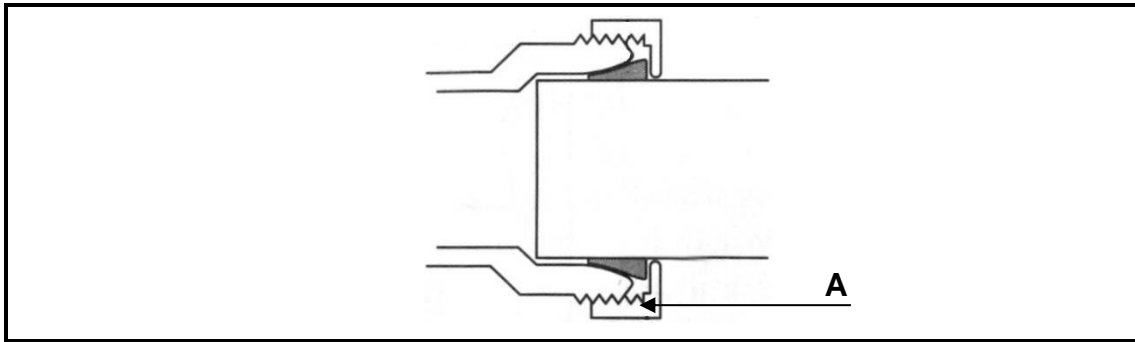

FIGURE 6.8
6.8 Answer the following questions with regard to the joint in FIGURE 6.8.